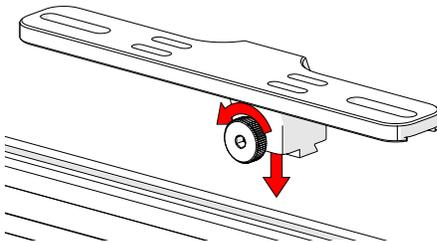

Fig. 42 - Loosen knob and mount to dovetail groove
1. Loosen the knob and align with the dovetail groove (Fig. 42).